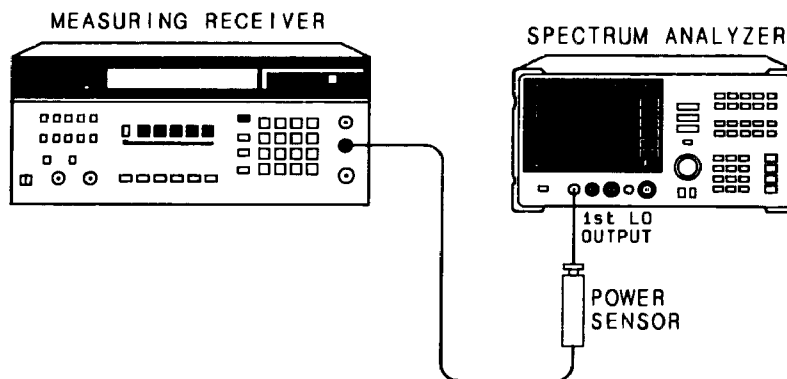

Figure 3-21. 1ST LO OUTPUT Amplitude Test Setup
2. Connect the equipment as shown in Figure 3-21.